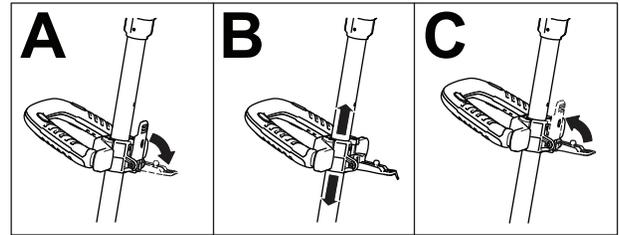

Figure 12
1. Release the auxiliary-handle latch (A of Figure 12).
2. Slide the auxiliary handle up or down to your desired height (B of Figure 12).
3. Close the auxiliary-handle latch to secure the auxiliary handle in place (C of Figure 12).